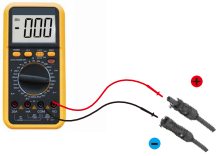

Figure 3.17 Multimeter measurement
5. Measure the DC voltage of each PV string with multimeter, confirm the polarity of PV strings are correct (see figure 3.17), and ensure each string voltage is in range of inverter operation.